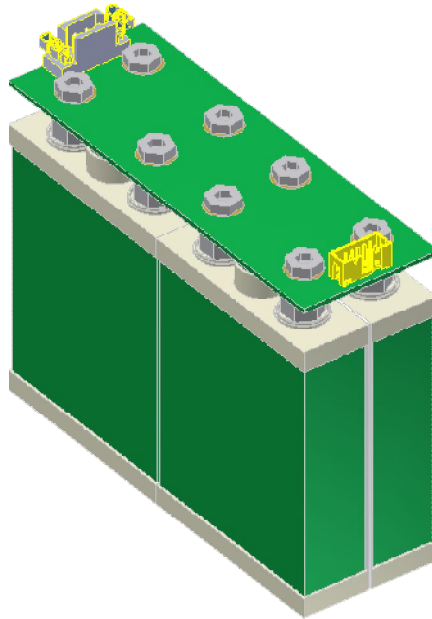

Figure 1
- A. Batteries- The LPRDS-ESS system requires that Li-ion batteries be used. Specifically, the batteries must be Lithium Iron Phosphate (LiFePO4) cells, with a capacity of 3.2V, C = 10Ah, and must measure 82x27x108 mm (LxWxH). Batteries must be connected in packs of 4 cells, as shown below in *figure 1*.
- 1.) Secure four cells in place in the formation shown in *figure 1*
- 1.) Secure four cells in place in the formation shown in *figure 1*.